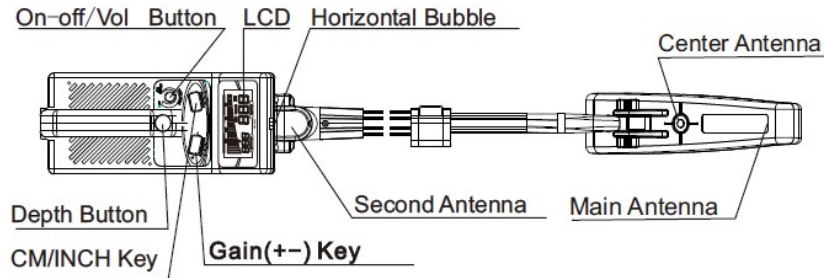

Figure 17
2. Control panel and antenna (see Figure 17)